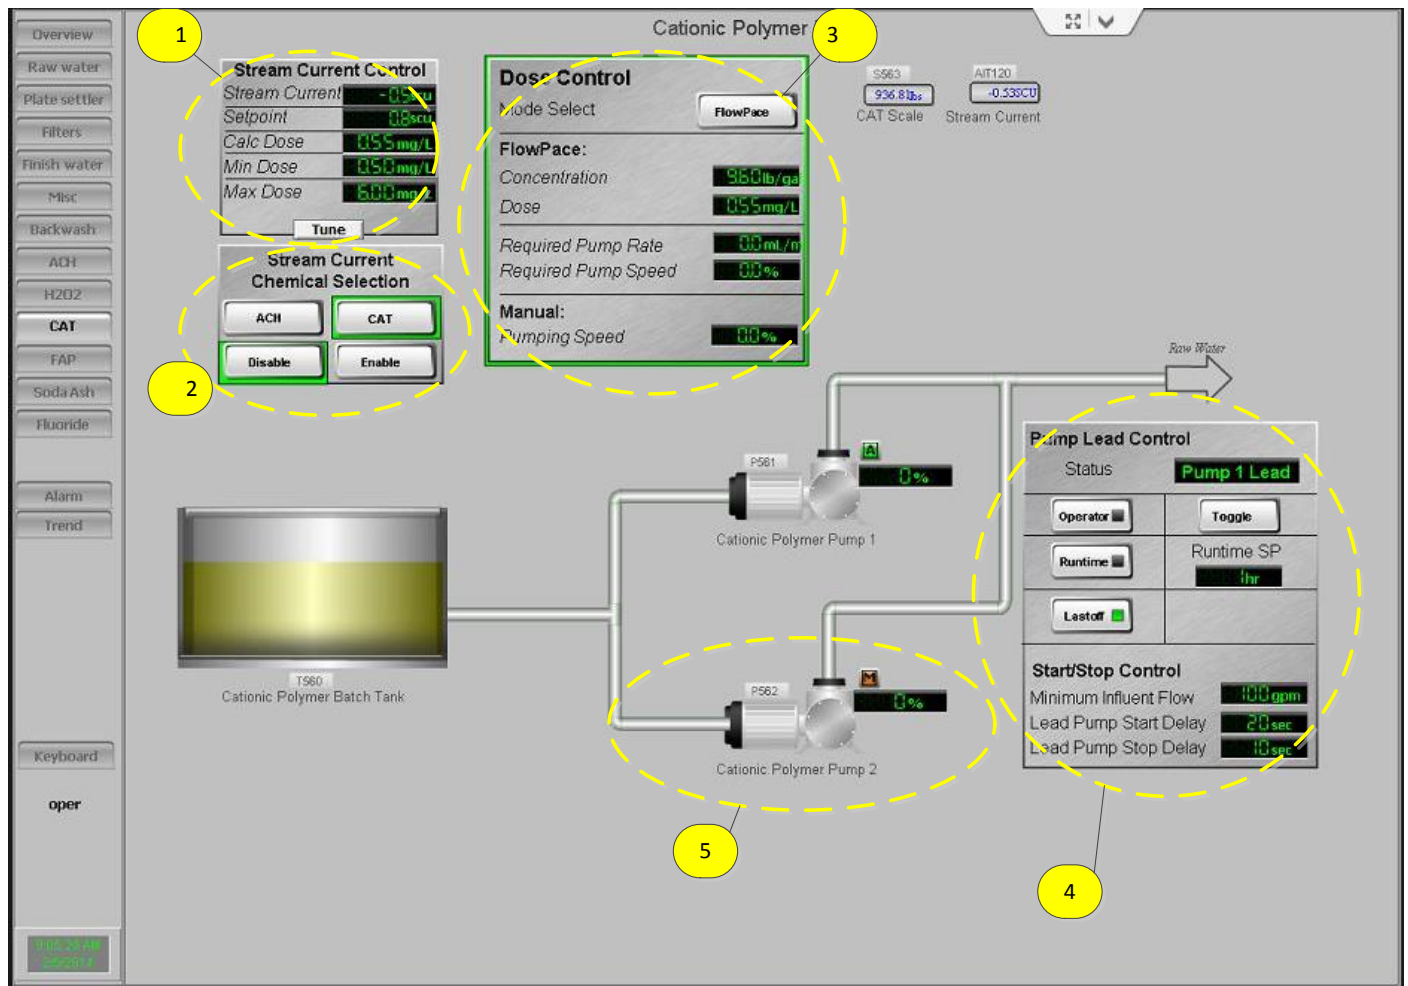

FIGURE 5-18
The Cationic Polymer has two control strategies: Constant dose flow pacing, and streaming current control. The two options are shown on the top left side of the pump control screen. The Cationic Polymer screen is shown in Figure 5-18. The different dose controls are discussed in the sections below. In addition to the pump dosing control, Pump Lead/Lag control is shown (4). The pumps can be operated as a duty/standby with operator control, or alternated by the SCADA system using the Last Off or Runtime options. Each pump has a control faceplate described in the Standard Function Section below (5).